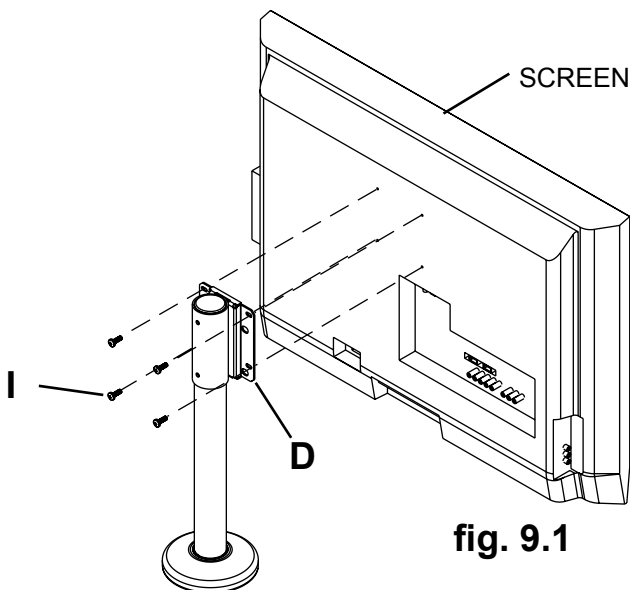

fig. 9.1
9 **For installing screens with a VESA 100 hole pattern:** Using the 4mm allen wrench (J), attach universal adapter plate (E) to adapter plate (D) using four M4 x 12 mm serrated socket pin screws (I) as shown in figure 9.1.